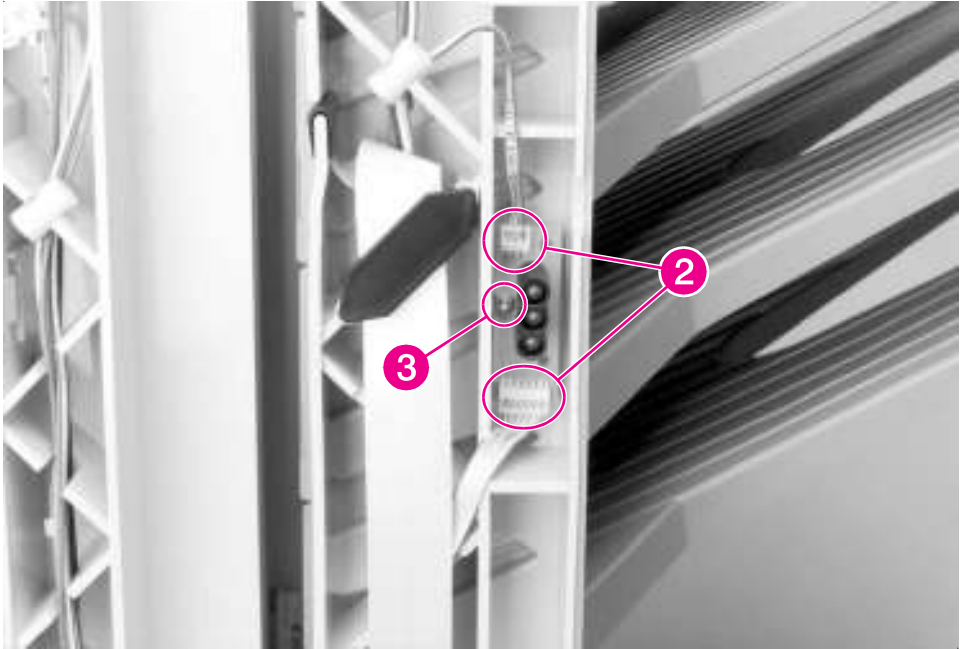

Figure 6-173 8-bin Mailbox Diagnostic LED PCA (2 of 2)
- 3 Disconnect the 2 flat cables from the Diagnostic LED PCA (Figure 6-173, callout 2).